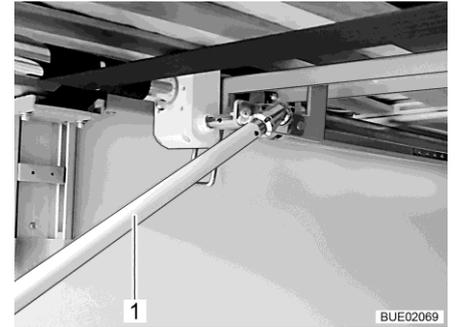

Fig. 151 Crank in the rear garage
- To lift the bed: Turn the crank (Fig. 151,1) clockwise.
To lower the bed: Turn crank (Fig. 151,1) in an anticlockwise direction.